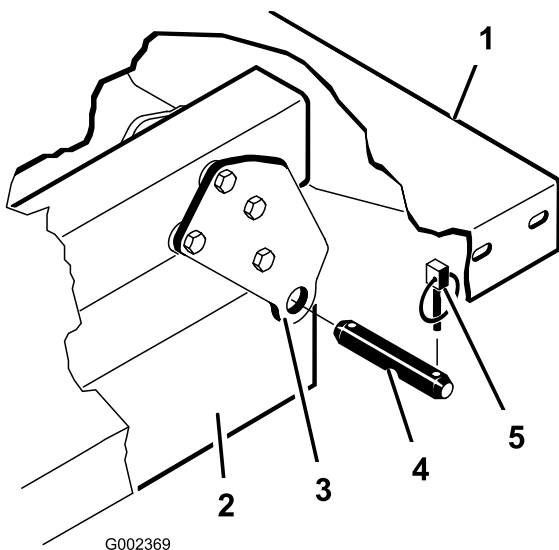

Figure 4
6. Remove the lynch pins and clevis pins securing the pivot brackets of the bed to the frame channels of the machine (Figure 4).